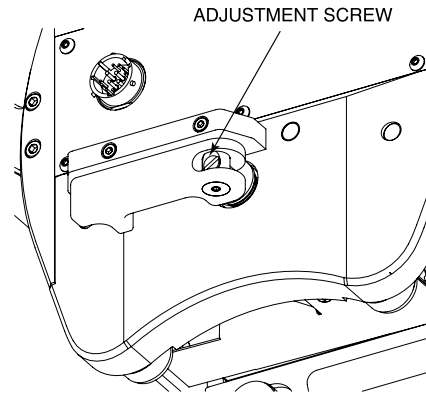

Figure 14 : Adjustment Screw
4. Once the set screws have been loosened, adjust the tension using a flat-head screwdriver to turn the adjustment screw - see Figure 14 : Adjustment Screw on page A-10 . Turn the adjustment screw clockwise to increase the tension. Turning it counterclockwise will decrease the tension.